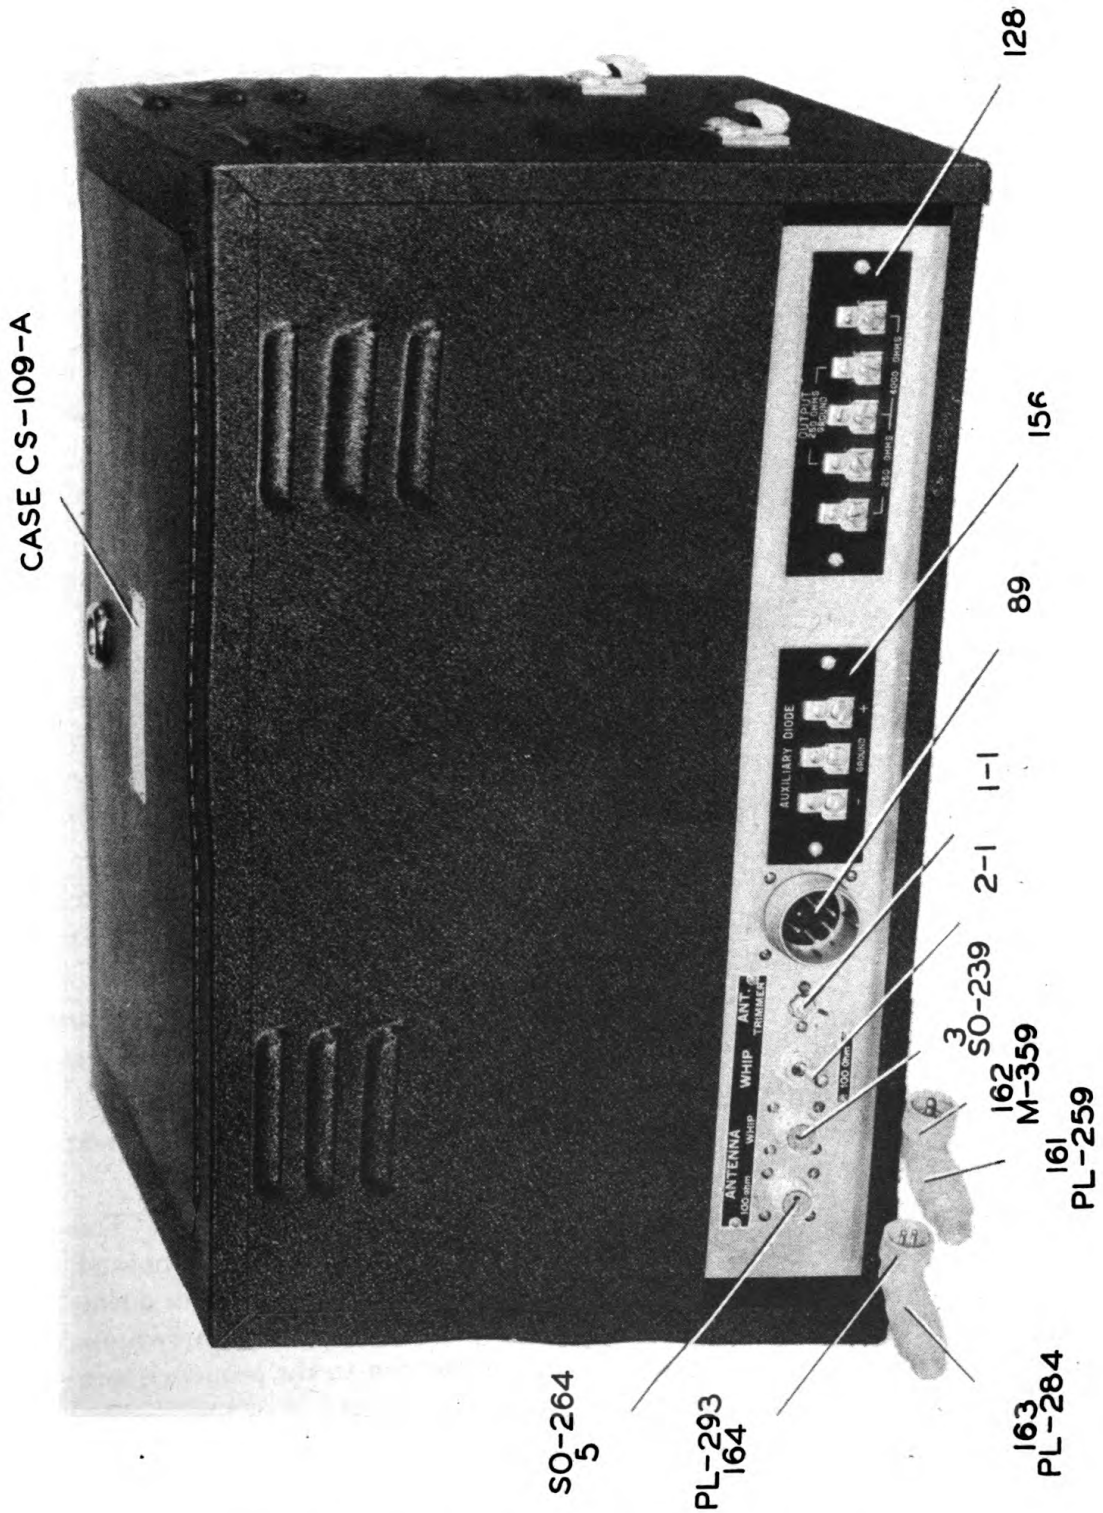
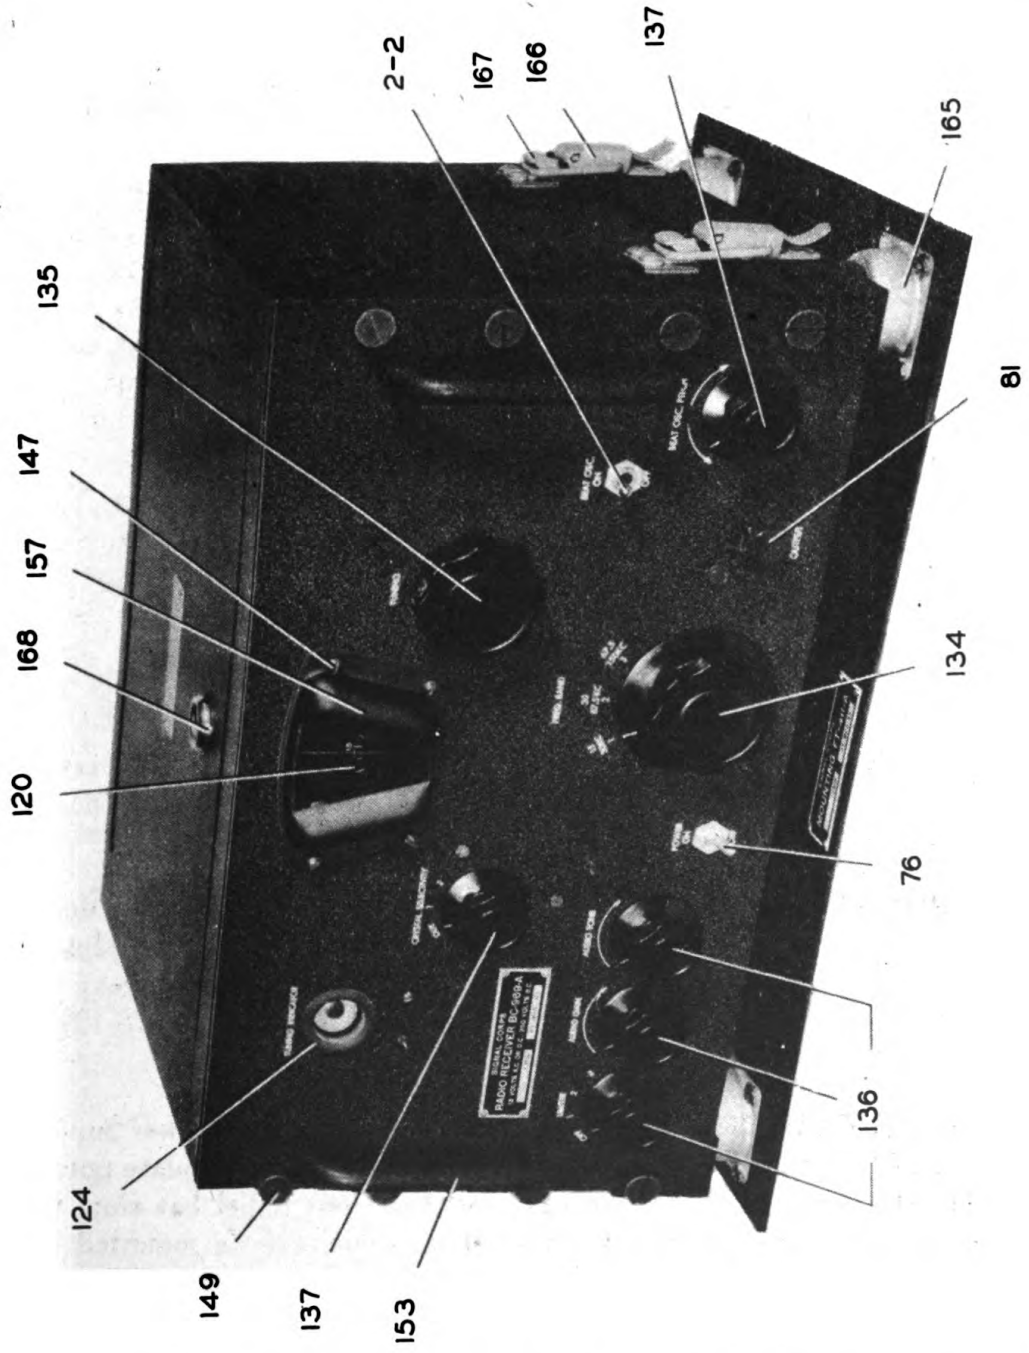

Figure 2. Radio Receiver BC-969-A, back view
Figure 3. Radio Receiver BC-969-A in Case CS-109-A on Mounting FT-411-A, front view
(1) **ANTENNA 100 ohm.**—This connection is marked 100 ohm under **ANTENNA** (figure 2). Plug PL-284 is connected to Socket SO-264, through Adapter PL-293. This connection is normally for a balanced transmission line but you can, if necessary, use it with either side of the input grounded to the chassis. The antenna should be as long as possible in order to balance the line for the best results. The proper antenna would be 9300 feet long, or nearly two miles, but the receiver will operate with a much shorter antenna; in fact, good reception is possible with less than 100 feet of antenna even on the 100 ohm input.
c. Operating controls.—The main controls for operating the receiver are on the front panel (figure 3).
(1) TUNING knob.—The TUNING knob has a ratio of 36 to one. It turns 18 times in covering the range of each of the three frequency bands.
(2) FREQ. BAND knob.—This control selects the desired frequency band.
(3) LIMITER knob.—This knob controls the noise limiter circuit. At OFF the limiter is not working. Positions 1, 2, and 3 give increasingly more limiting of noise.
(4) AUDIO GAIN control.—This knob controls the volume of the receiver.
(5) AUDIO TONE control.—As this knob is turned to the right (clockwise), the higher audio frequencies are cut off. It is also used to decrease the effect of certain types of interference.
(6) CRYSTAL SELECTIVITY control.—This knob controls a switch having three positions. When the pointer is at OUT, the crystal filter isn't working. Positions 1 and 2 give two degrees of crystal selectivity. The crystal filter is used to filter out channels close to the one being received; hence, it is especially useful in receiving CW.
(7) BEAT OSC. PITCH knob.—This control adjusts the pitch of the beat oscillator over a range of 5000 cycles either side of the center position.
(8) POWER ON-OFF switch.—This switch controls the a-c input to the power supply unit through Cord CD-872; it turns the power to the receiver on and off.
(9) BEAT OSC. ON-OFF switch.—This switch turns the beat oscillator on and off.
(10) WHIP-100 Ohm antenna switch.—(See Figure 2.) This switch (on back of chassis) changes the antenna connections as marked, depending on the type of antenna you are using. When thrown downward toward 100 Ohm the whip antenna is grounded. When thrown upward toward WHIP, the whip antenna is connected to the proper circuit.
(11) ANT. TRIMMER.—This trimmer couples the whip antenna and is seldom adjusted. It is adjusted and locked in position as the receiver is issued and must not be changed except in special cases*.
4. CASE CS-109-A.—Case CS-109-A houses Radio Receiver BC-969-A. It is made of steel and has ventilating slits and four hooks used to attach it to the Mounting FT-411-A (figure 3).
5. MOUNTING FT-411-A.—This is a shock-proofed mounting made especially for installing the receiver in a vehicle. It has a steel bedplate and rubber shock mounts to which are bolted two support angles. On the angles are four catches which clamp on to the hooks on Case CS-109-A and fasten the two together (figure 3).
b. Remove the four thumbscrews which hold the escutcheon (157), covering the dial, to the front panel (figure 3). Take off the escutcheon and see that the two pilot lights are properly in place in their sockets. Replace the escutcheon and thumbscrews.
(1) Make sure the 5U4G tube is all the way down in its socket.
(2) See that the screw terminals of Cords CD-872 and CD-87 are tight. Check the leads to see that the right color is on each terminal
(1) Connect Cord CD-872 to the six-prong receptacle (figure 2) on the back of the receiver. Push the connector into this receptacle and tighten the knurled locking ring so that the plug is securely seated. The plug can't be put in wrong because of the key and keyway on the receptacle and plug. Normally the right angle portion of the plug is upward; however, it can be put together so that the right angle portion points in any of eight directions. It will work in any of these positions with the receiver in Mounting FT-411-A but a specific position may have to be used for some special installation.
(2) Connect the antenna after deciding which plug to use. If you are using a long antenna (over 50 feet), plug it into the twin conductor PL-284 which connects to the socket marked ANTENNA 100 ohm on the chassis (figure 2). When using the 30-foot whip antenna, or any antenna less than 50 feet long, plug it into the single conductor PL-259 which connects to the socket marked ANTENNA WHIP (figure 2).
(3) See that the antenna switch (figure 2) is in the proper position. Throw it to WHIP if you're using a whip antenna or to 100 ohm if you're using a long antenna.
(4) See that the ANT. TRIMMER (figure 2) is properly set. The normal setting is marked by a line on the rear panel; the slot of the trimmer should point to the line and the black half of the trimmer screw should be towards the bottom of the receiver. This trimmer is set and locked in the proper position before the receiver is issued so that best results are obtained with any antenna. However, if you find that the trimmer is set with the slot more than 10 degrees off the line, loosen the hex. locking nut with a wrench or long nose pliers, reset the slot to the line, and tighten the nut. For other than normal setting see paragraph 3c(11).
(5) Determine the type and impedance of the output device to be used. If it's a loudspeaker, connect it to the rear OUTPUT panel at the proper impedance points (see paragraph 3b(3) and figure 2). When Headset HS-30 is used, plug it into the OUTPUT jack on the front panel.
(7) Make sure there is a ground connection from the receiver chassis to the frame of the TC-8 or TC-9 or to actual ground. You can make this connection to the center screw terminal of either the AUXILIARY DIODE panel or the OUTPUT panel on the rear of the receiver chassis (figure 2). Both of these are connected to the chassis and are marked GROUND. **DON'T FORGET TO DO THIS OR YOU'LL GET AN ELECTRIC SHOCK IF YOU TOUCH ANY PART OF THE RECEIVER.**
(8) Fasten the trunk catches on Mounting FT-411-A to the receiver.
(9) Fasten the trunk catches on Mounting FT-414 to the power unit.
(10) Now plug Cord CD-873 into the power line and the set is ready for operation.
12. OPERATION.—a. Initial control setting.—(1) Turn the POWER switch to ON and allow one minute for the tubes to warm up. The dial lights should light and after about one minute, the tuning indicator tube should show a greenish glow.
(2) If the dark part of the TUNING INDICATOR (figure 3) is not toward the bottom of the receiver, lift the case lid and turn the base of the tube until the dark section is downward.
(3) Set the LIMITER control to OFF.